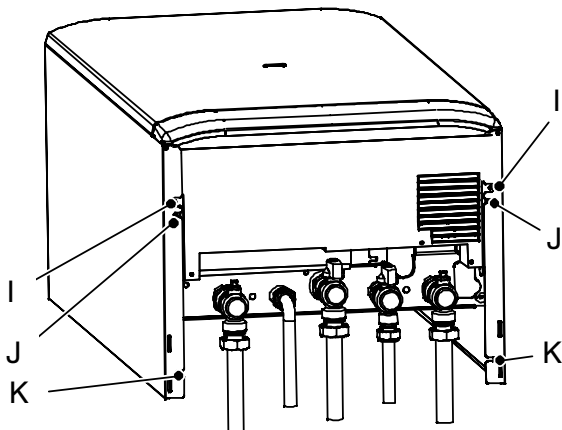

Fig. 6.11
- 2 Remove the screws I and J (Fig. 6.11).